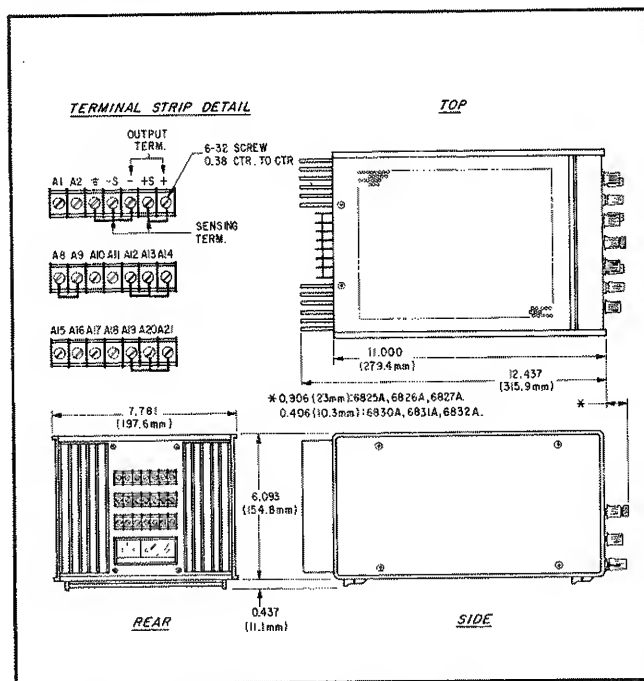

Figure 2-1. Outline Diagram
Input Power: Model 6826A: 104-127/208-254Vac (switchable), 48-63Hz, 1.0A, 130W Model 6827A: 104-127/208-254Vac (switchable), 48-63Hz, 1.2A, 150W  Meters: Individual voltage and current meters. DC accuracy is 3% of full scale. AC accuracy is 5% full scale with sinusoidal, 100Hz input.  Meter Ranges (DC): Model 6826A: $\pm 6V$ , $\pm 60V$ $\pm 0.12A$ , $\pm 1.2A$ Model 6827A: $\pm 12V$ , $\pm 120V$ $\pm 0.06A$ , $\pm 0.6A$  Meter Ranges (AC): Model 6826A: 4V (uncal), 40V rms 0.08A rms, 0.8A rms Model 6827A: 8V (uncal), 80V rms 0.04A rms, 0.4A rms  Temperature Ratings: Operating: 0 to 55°C. Storage: -40 to +75°C.  Cooling: Convection cooling is employed. The supplies have no moving parts.  Dimensions: See outline diagram, Figure 2-1.  Weight: 18 lbs. (8.2 kg.) net, 21 lbs. (9.5 kg.) shipping.	Model 6827A: X1 Range: -10V to +10V, 0 to 0.5A X10 Range: -100V to +100V, 0 to 0.5A  Load Effect (Load Regulation): Voltage load effect is given for a load current change equal to the current rating of the supply. Current load effect is given for a load voltage change equal to the voltage rating of the supply. Model 6826A: Voltage (X1 Range): 0.01% + .5mV Voltage (X10 Range): 0.01% + 1mV Current: .01% + 250 $\mu$ A  Load Effect (Load Regulation) Continued: Model 6827A: Voltage (X1 Range): .01% + .3mV Voltage (X10 Range): .01% + 1mV Current: .01% + 250 $\mu$ A  Source Effect (Line Regulation): For a change in line voltage between 104 and 127Vac/208 and 254Vac at any output voltage and current within rating. Model 6826A: Voltage (X1 Range): .01% + .5mV Voltage (X10 Range): .01% + 5mV Current: .01% + 250 $\mu$ A Model 6827A: Voltage (X1 Range): .01% + 1mV Voltage (X10 Range): .01% + 10mV Current: .01% + 250 $\mu$ A  PARD (Ripple and Noise): Rms/p-p (20Hz to 20MHz) at any line voltage and under any load condition within rating. Model 6826A: Voltage (X1 Range): 2mV rms/10mV p-p Voltage (X10 Range): 6mV rms/35mV p-p Current: .8mA rms/5mA p-p Model 6827A: Voltage (X1 Range): 2.5mV rms/15mV p-p Voltage (X10 Range): 10mV rms/50mV p-p Current: .4mA rms/5mA p-p
2-14 Figure 2-1 illustrates the outline shape and dimensions of Models 6826A and 6827A.